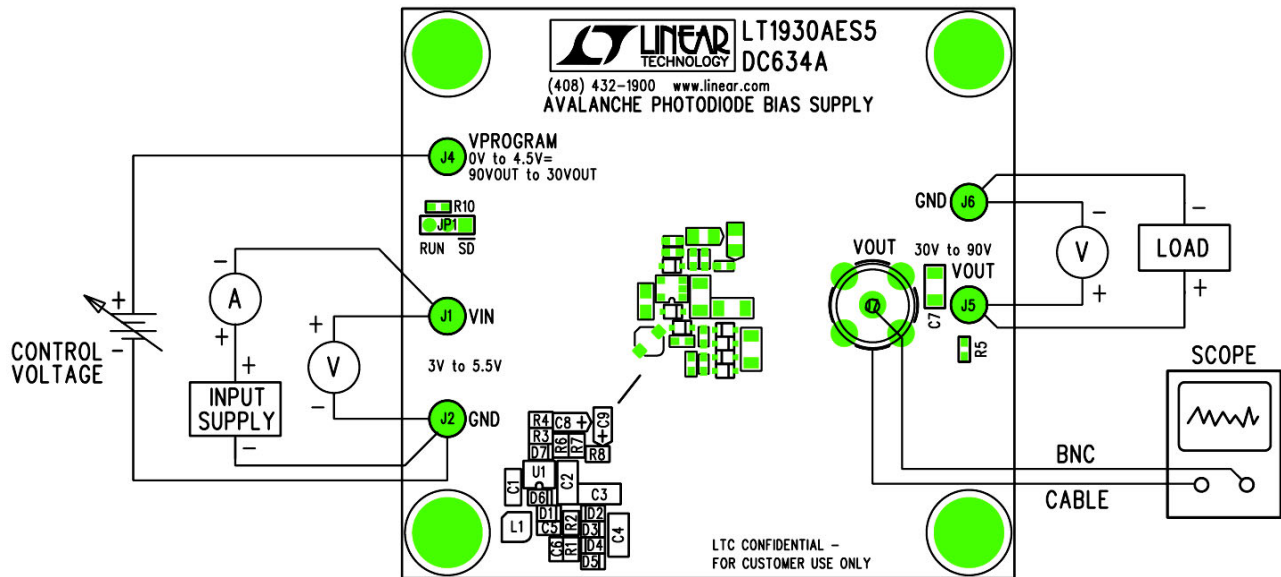

Figure 1. Proper Measurement Equipment Setup
2. Connect input supply, control voltage, load and meters as shown in Figure 1. If you want to monitor output ripple, also connect the BNC connector to the oscilloscope through a coaxial cable.